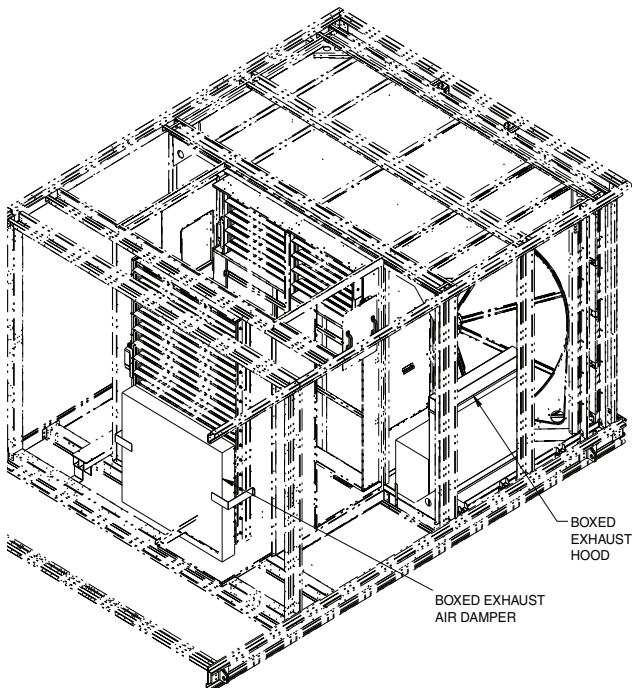

Fig. 38 — Packaging Location for Exhaust Hood and Exhaust Air Damper
1. Remove boxes from unit. See Fig. 38 for locations.